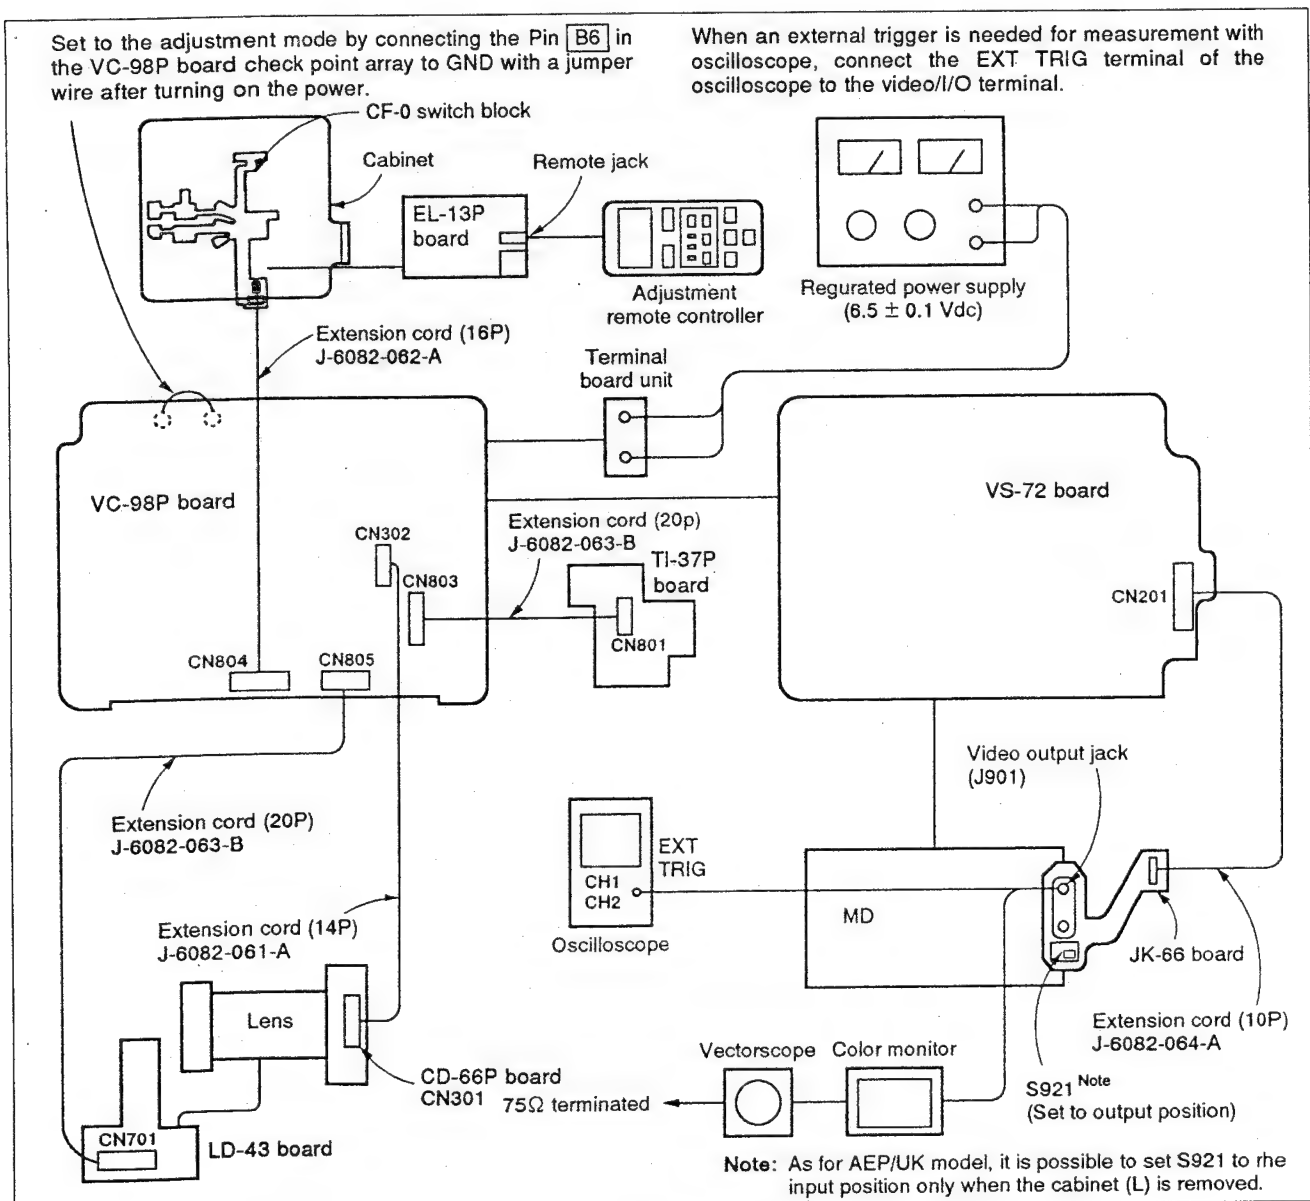

Fig. 4-3.
- 1) Connect the various devices for adjustment as shown in Fig. 4-3.